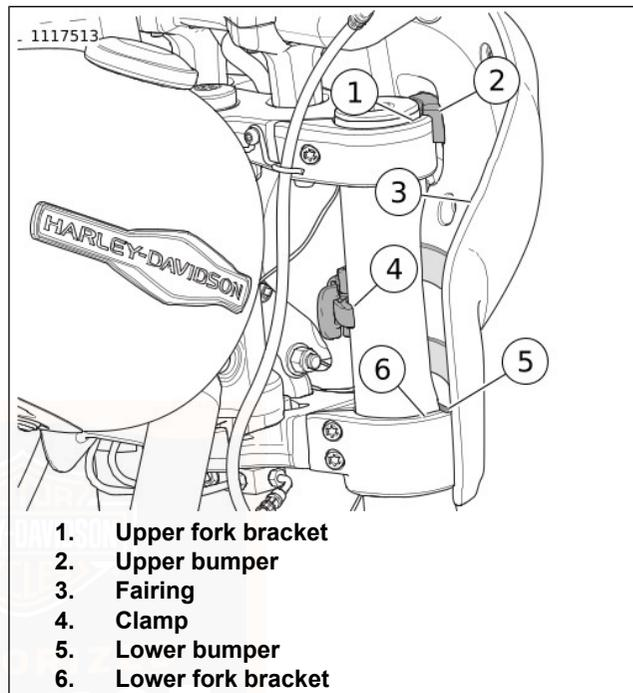

Figure 53. Fairing Installed
1. See Figure 53. Remove fairing.
- b. Open clamps (4).
- c. Straddle fender. Lift fairing (3) up over headlamp.
- c. Straddle front fender. Place fairing over headlamp and onto front forks (5).
- d. See Figure 53. Position upper bumper (2) on upper fork bracket (1).
- e. Verify lower bumper (5) is seated on lower fork bracket (6).